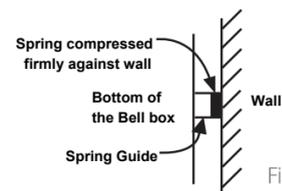

Fig. 2.2
- Ensure the tamper switch 1 is fully depressed when the siren is mounted. If there is a gap, pack with a suitable spacing material (Fig: 2.2).